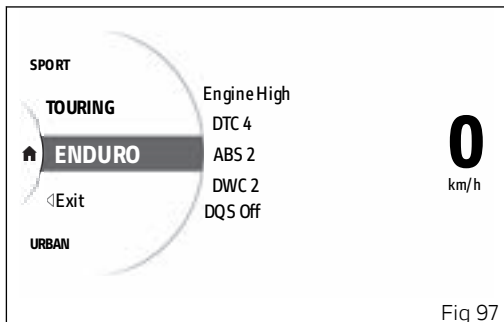

Fig 97
- Press and hold the MODE/ENTER button (3) for a long time.
- The dedicated screen is displayed (Fig 97) where, using buttons (1) and (2), it is possible to scroll through the available Riding Modes and display the parameters with the relevant set values.
- Press the MODE/ENTER button (3) to confirm.